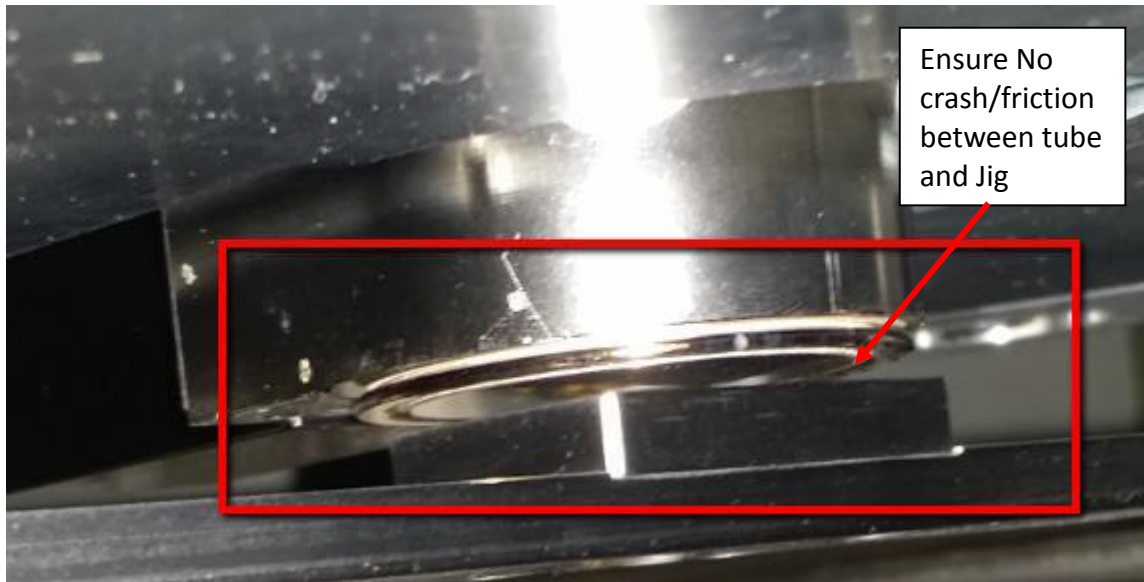
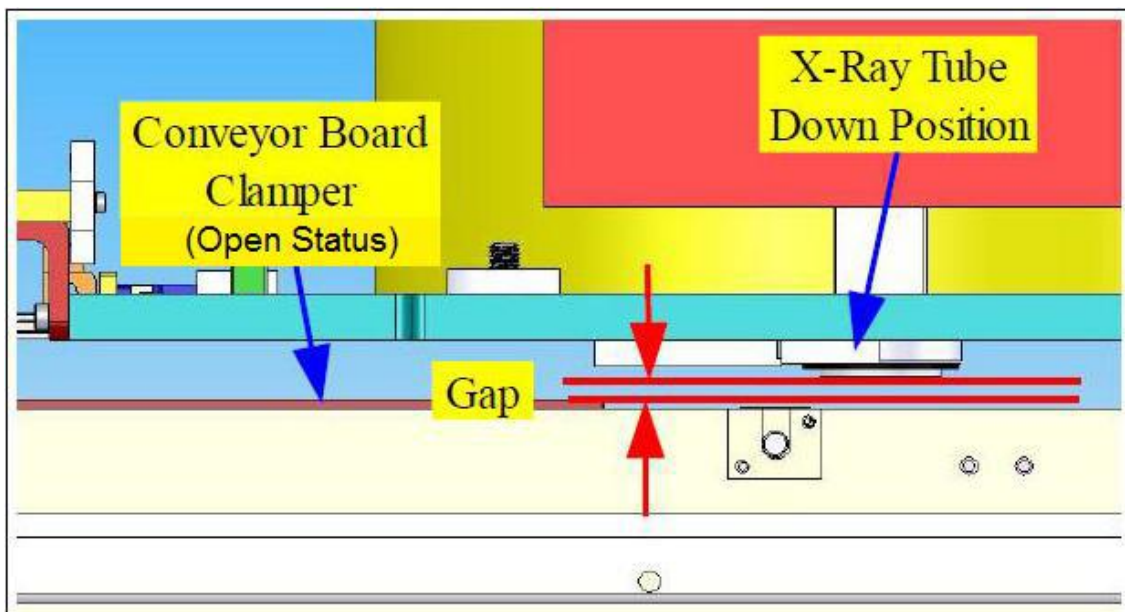

Figure 26
Figure 27
34. Move the XY stage pass thru the X-Ray tube Beryllium surface; ensure Jig is not crash/friction with tube Figure 26 & stage clumper as Figure 27. As usual the clearance between tube and Jig will be approximately 2~3mm. If X-Ray tube target contain friction with jig, slightly adjust the High Mag hard stop to higher position.